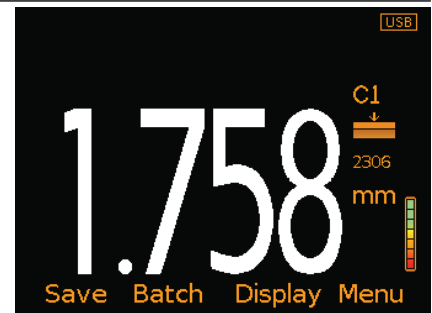

Figure 5: Readings
- **Readings (Figure 5)**; The reading value is displayed using the resolution as defined by the user, see Section 7.7 on page en-13.